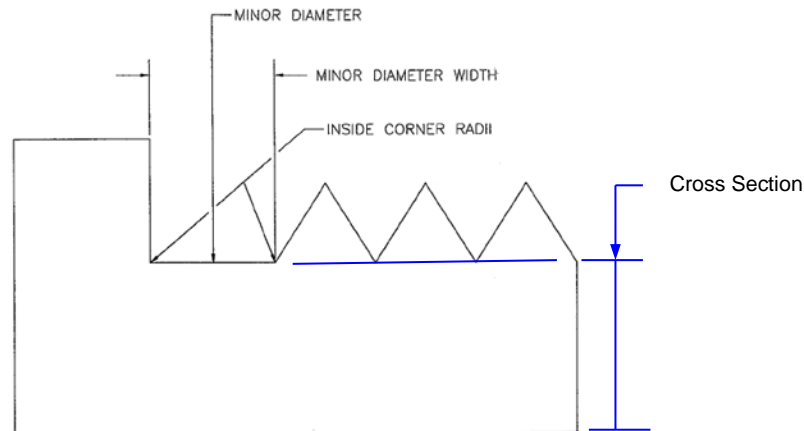

Figure 2 External Thread Dimensions
6. External Threads (see Figure 2):